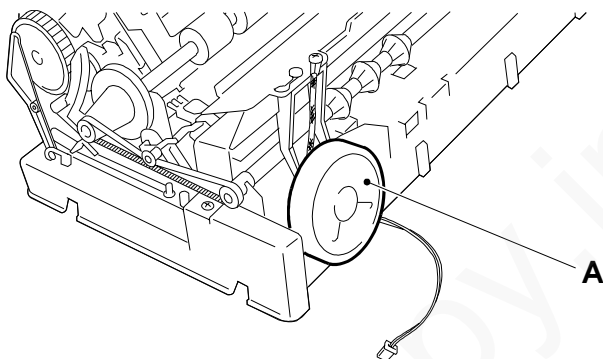

Fig. 7-22
- 2) Remove loudspeaker **A** from its housing by extracting it downward (fig. 7-22):